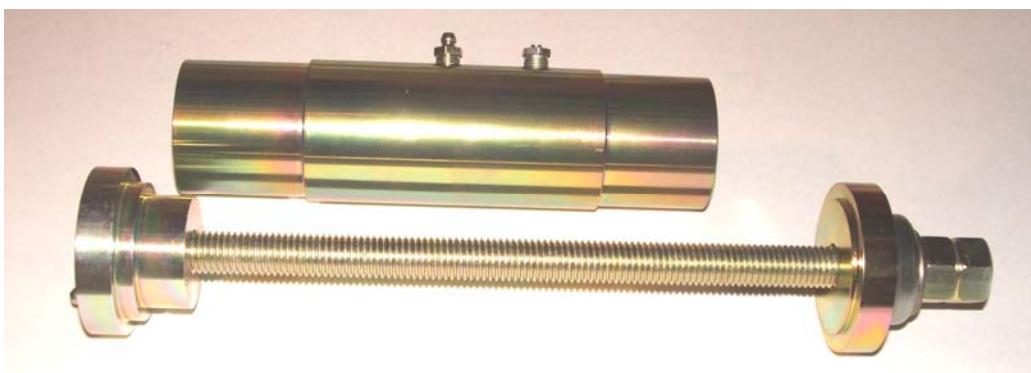

Fig. 4
2. Line up the tube to the channel and introduce the tube to the spider. Using tool # TDK-12250 (see fig. 4) or a suitable equivalent puller, install the puller to press fit the tube into the spider channel and align. Tighten the puller assembly until the tube is fully seated.
7. Slide the S-cam journal washer (item 7, figure 4) onto the camshaft and seat it against the cam tube assembly.
8. Using retaining ring pliers, hold open the retaining ring (item 8, figure 4) and slide it on the end of the camshaft. Lock the retaining ring into the groove on the camshaft.
9. Slide the second S-cam journal washer (item 7, figure 4) onto the camshaft and seat it against the retaining ring (item 8, figure 4).
10. Lubricate the single, centrally located grease fitting with approximately four ounces of #2EP NLGI chassis lube. Add grease until it can be seen purging from the cam tube inboard seal (figure 4). Wipe away excess grease purged from joints. This will help prevent contaminants from being attracted to the lube points and grease from getting on the brake linings.